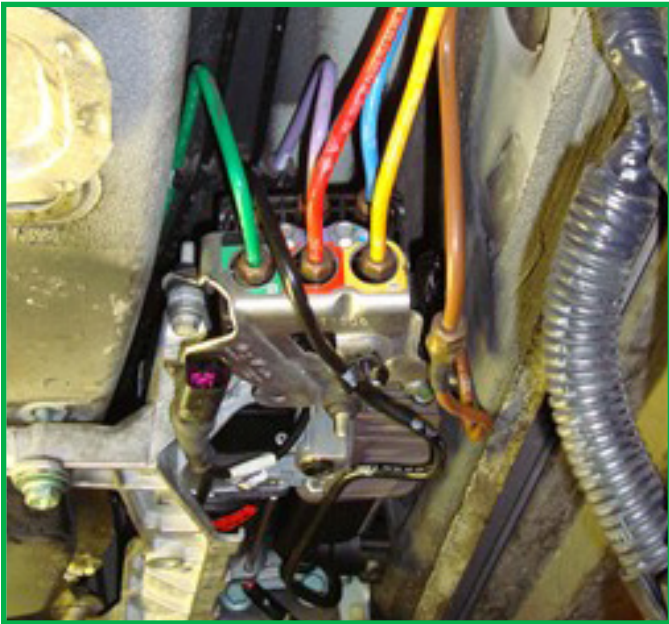

FIGURE 5
7. Disconnect the lines from the air valve block (black line (P) does not have to be disconnected). (Figures 5, 6)
NOTE: Your compressor may not have a brown line as shown in Figure 5. If the brown line is not present, just disconnect the other (5) lines indicated and proceed to the next step.